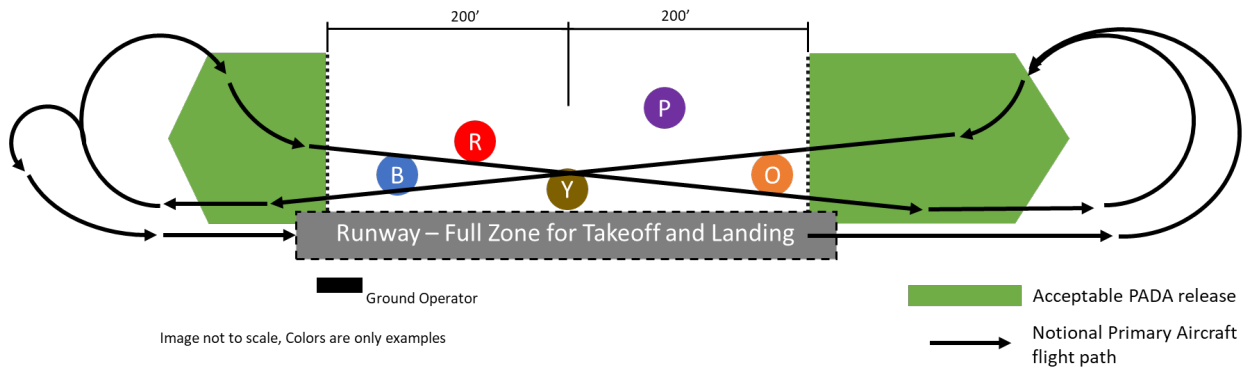

Figure 8-1 – Notional PADA Release Diagram. Not to scale.
3. Teams have as many passes as needed, as the PADA is released within four (4) minutes of throttle-up, lands within five (5) minutes of throttle-up.
- Being within four (4) minutes of primary aircraft throttle-up
- Complying with Section 8.15.1 and 8.15.2 as shown in Figure 8-1.